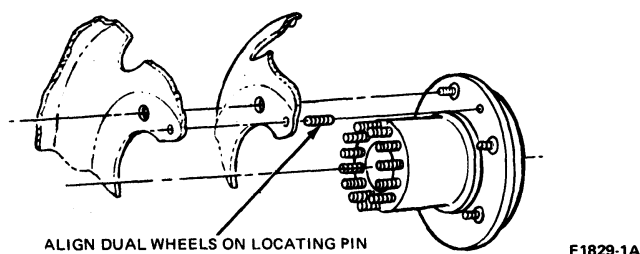

FIG. 2 Dual Rear Wheel Radial Alignment to Hub (E-350, F-350)
- E-350 and F-350 with dual wheels have mounting bolt holes which are alternately flared inward and outward. These surfaces must be mated when the wheels are mounted. Fig. 2 illustrates the dual wheel radial alignment locating pin used on E-350 and F-350.